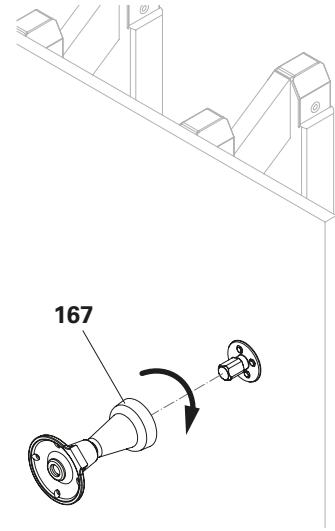

Fig. A3.23
3. Screw the pre-assembled climbing ties (**167**) onto the Anchor Positioning Stud M30 (**177**) tightly. (Fig. A3.23 + A3.24)